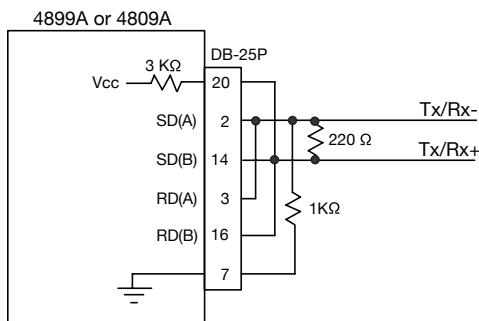

Figure 2-13 4899A/4809A Pullup/Pulldown Resistor Connections
Figure 2-13 shows a method of making the RS-485 connection to a 4899A or 4809A. Figure 2-13 uses the 4899A/4809A's internal pullup resistor available at pin 20 to pullup the SD(B) and RD(B) lines. A 1 kohm resistor from SD(A) and RD(A) to ground is the pulldown resistor. The 220 ohm load resistor completes the circuit. The 4829A contains an internal termination network on the RD signal pair and does not need external resistors.